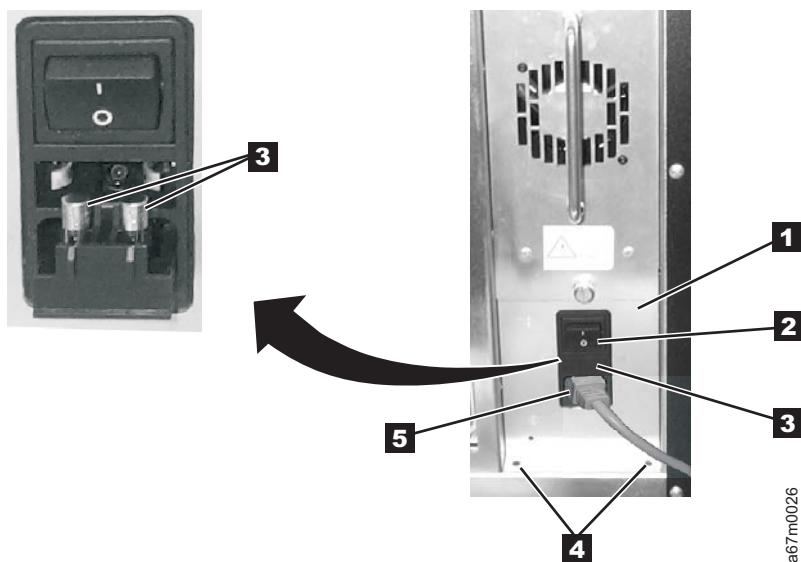

Figure 8-43. ac Input Module Removal and Replacement
2. Problem which sent you here may be caused by blown fuses (5A) on the ac Input Power Module. Refer to Figure 8-43 for location of fuses. If fuses are blown, replace fuses and power up the Library. If fuses continue to blow, perform Procedure Remove the “ac Input Power Module.”
See Figure 8-43 for locations of components in the following procedure.